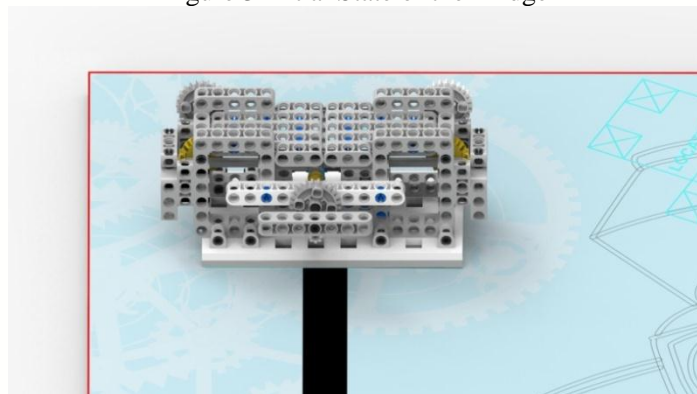

Figure 4 Competition Status of the Bridge
3.2.2 The robot needs to turn the handle to connect the decks. Wherein, 40 points are given as long as the gap between the two decks is less than 5 mm. Figure 4 shows the completion standards.